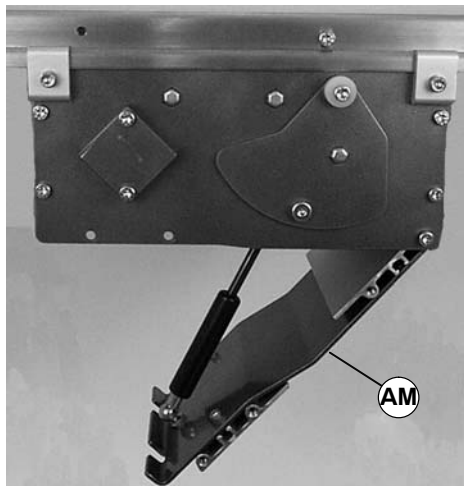

Figure 39
- Close tension door (AM of Figure 39).